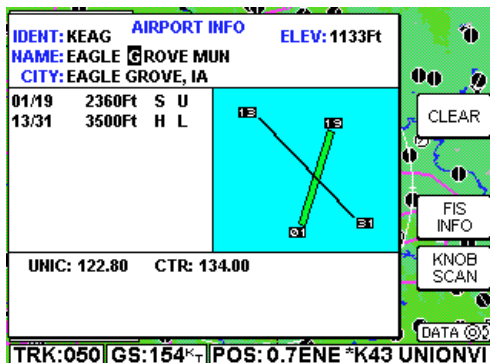

Figure 14
7. Turn the inner knob to select a **G** as in Figure 14. The desired airport is now displayed because it is the first database instance with a **G** in this field.